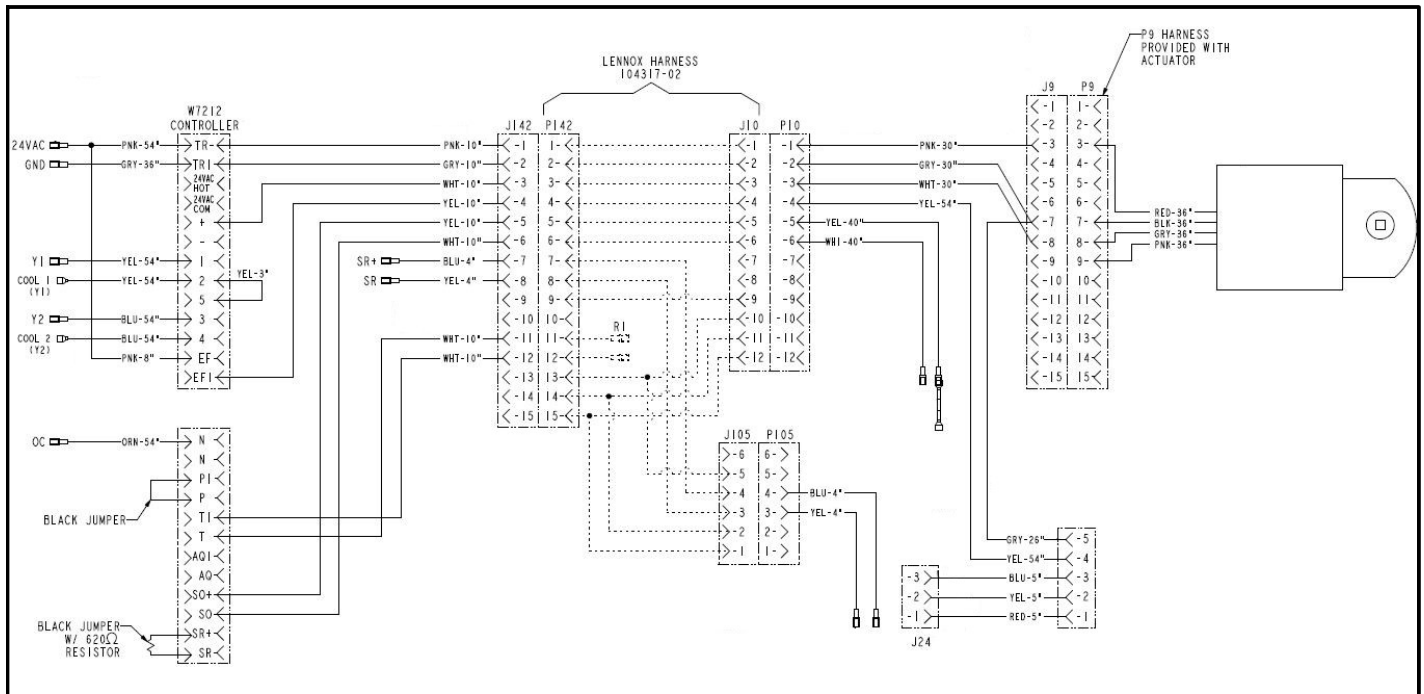

FIGURE 22
- 5- Connect any optional sensors as shown in Figure 22..
- 6- If optional power exhaust is used, wire according to instructions provided with power exhaust. See Figure 22.